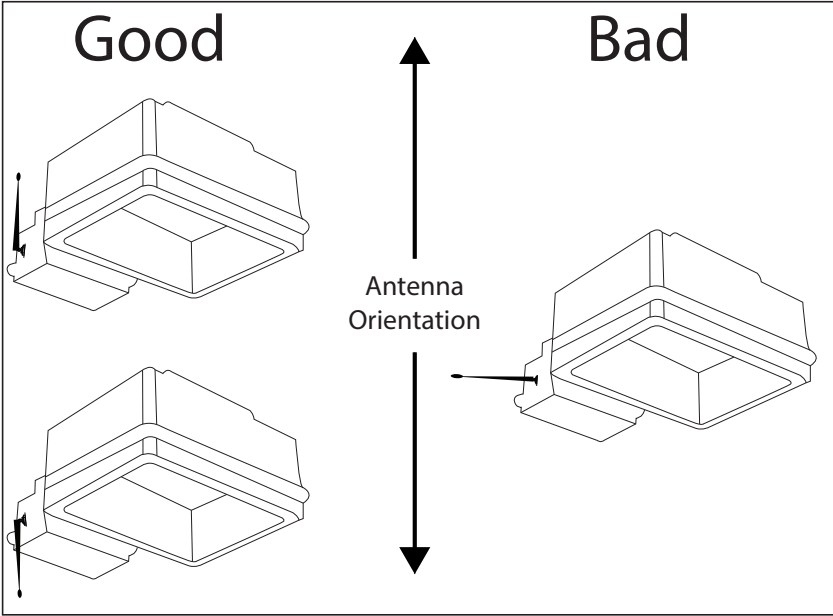

Figure 1 - Proper Antenna Installation
For standard installation, place the light controller in the desired location inside the fixture and secure it using (4) #4 machine screws. Make sure the head of the screw does not extend outside the silk-screened circular pattern on the printed circuit board at each hole location. A nylon standoff at least 1/4” in length should be used between the board and the mounting surface to prevent shorts. Prior to permanently mounting it, verify the antenna can be mounted external to the fixture and allows adequate room for connecting the coax cable from the DIM10-283-20 to the antenna. Also make sure the antenna can be oriented vertically and is free from blockage by any surrounding metal. (see Figure 1).